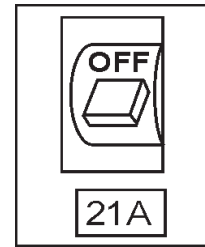

Figure 23. Main Circuit Breakers (Off)
1. Place the main circuit breaker (Figure 23) in the **OFF** position.